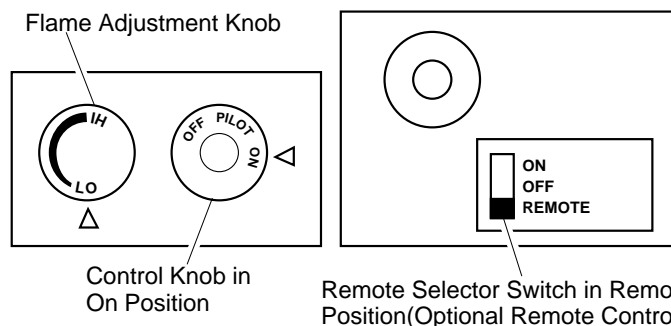

Figure 28 - Setting the Remote Selector Switch, Control Knob, and Flame Adjustment Knob for Remote Operation
2. Select the MANUAL or AUTO button on the hand-held remote control unit (GHRCT only, see Figure 28).